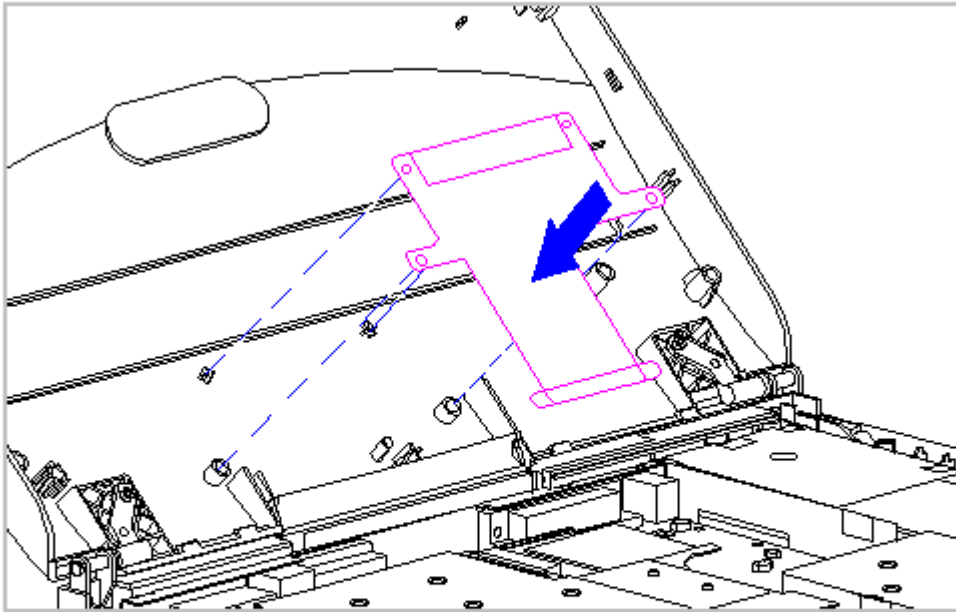

Figure 5-91. Replacing the Display Ground Cable - CSTN (10.4 in) Display
1. Position the display ground cable in the display enclosure, aligning the cable with the bosses in the display enclosure (Figure 5-91).